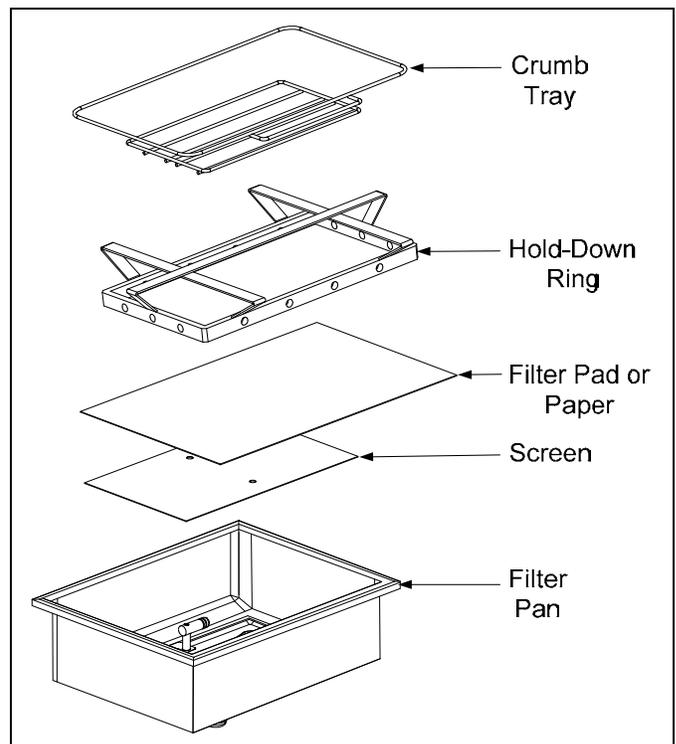

Figure 1
1. Pull the filter pan out from the cabinet and remove the crumb tray, hold-down ring, filter paper or pad and filter screen (see Figure1). Clean all components with a solution of detergent and hot water then dry thoroughly.
3. Then in reverse order, place the metal filter screen in the center of the bottom of the pan, then lay a sheet of filter paper or pad on top of the screen, overlapping on all sides (see Figure1). If using a filter pad, ensure the rough side of the pad is up and lay the pad over the screen, making sure that the pad is in between the embossed ridges of the filter pan.